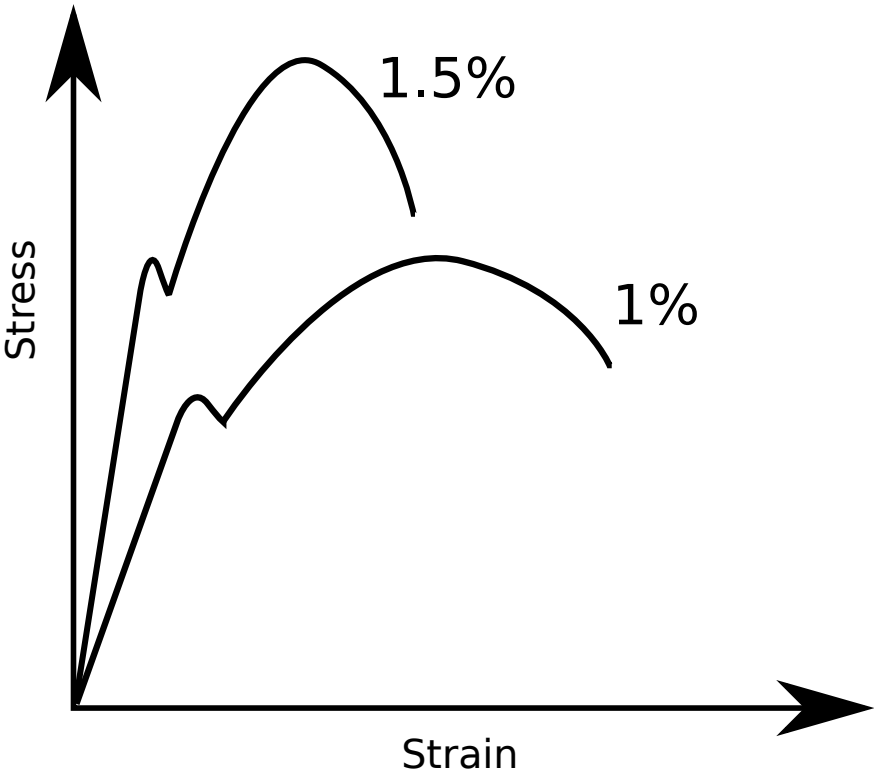

Figure 4:  $\sigma - \epsilon$  curves of  $S_1$  and  $S_2$
- Relative  $\sigma - \epsilon$  curves of  $S_1$  and  $S_2$  are given in Figure 4.